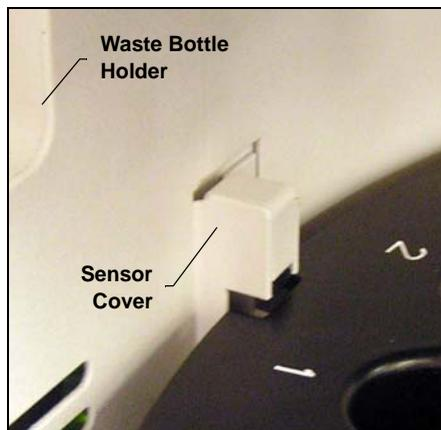

Figure 3-13. Cutout-Sensor Cover Alignment
6. After verifying that the cutout in the vial tray insert is aligned with the sensor cover on the inside wall (see Figure 3-13), lower the tray insert onto the collection tray and firmly press it into place.